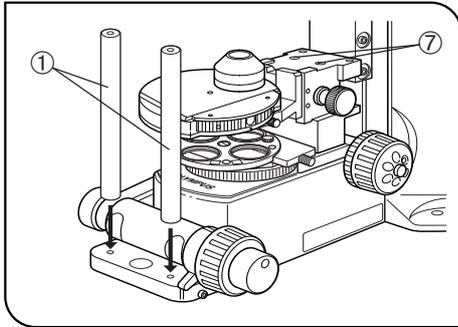

Fig. 55
7 Attaching the Cross Stage (Figs. 55 & 56)
When no condenser is used, the stage height can be lowered by 50 mm by loosening the 2 condenser holder clamping screws (⑦ in Fig. 55) and removing the holder.